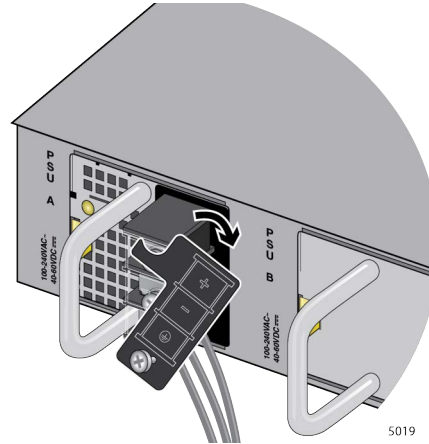

Figure 137. Accessing the Connecting Screws
3. Press the panel to the right to access the connecting screws as shown in Figure 137 on page 209.